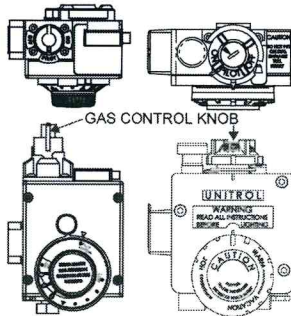

Figure 1
1. Turn the water heater gas control knob to "off" (See Figure 1) and allow the water heater to cool for about 15 minutes. Remove the outer door.